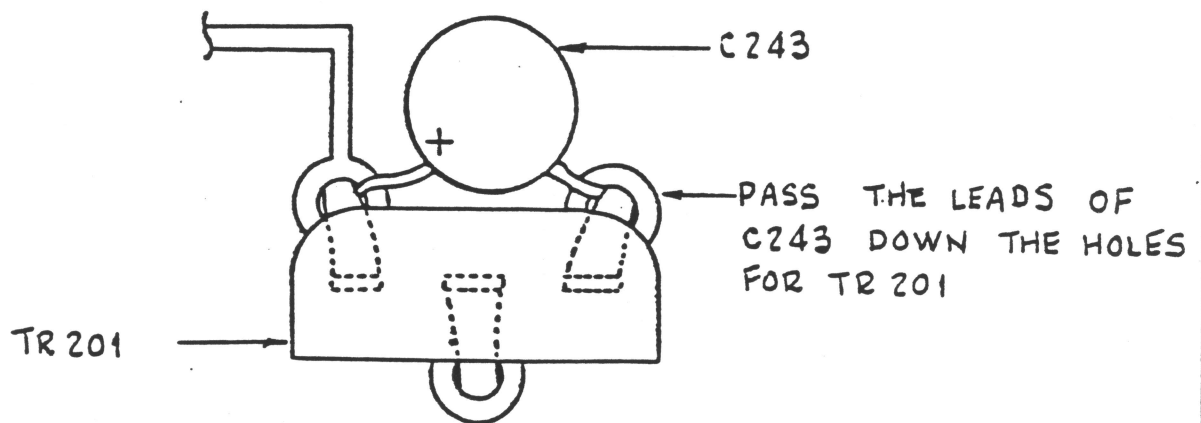

FIG. 3
- 2.8 As shown in Fig 3 add new capacitor C243, item 2 across TR 201. Add circuit reference marking.